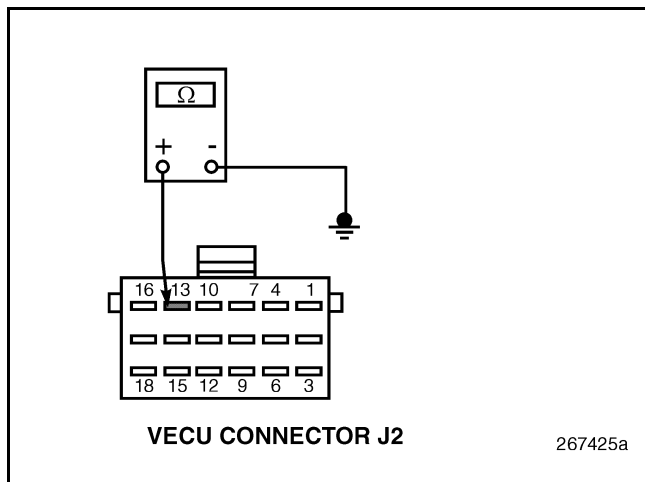

Figure 697
5. Check for continuity between VECU connector J2 pin 13 and a good ground (see Figure 697).